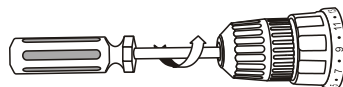

Fig. 13
5. Tighten the chuck screw using a #2 \oplus screwdriver (Fig 13).